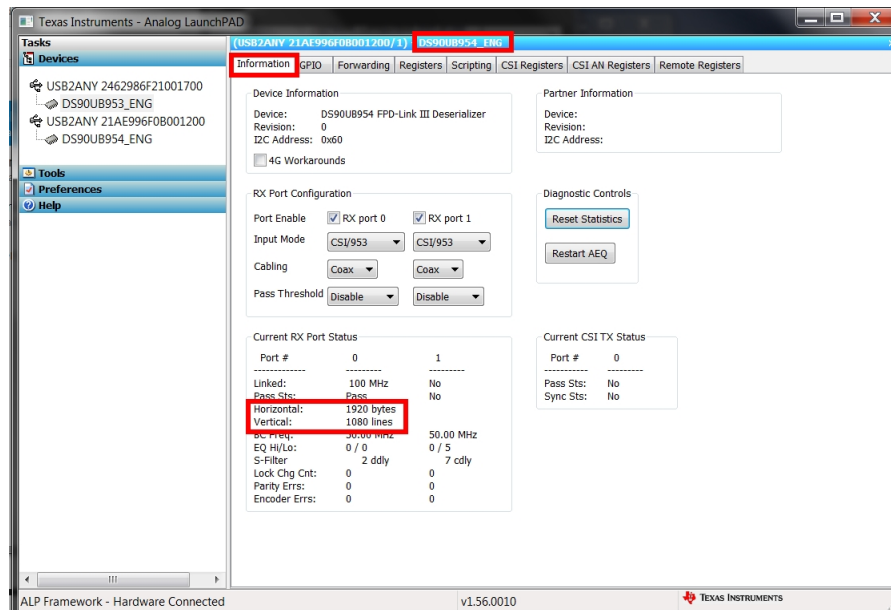

Figure 42. Verifying Camera Initialization in ALP
- Verify that the camera has been enabled navigating to the information tab on the DS90UB954 (or variant), and checking to the horizontal and vertical parameters for the appropriate resolution defined by the camera. Figure 42 shows 1920 bytes and 1080 lines for the horizontal and vertical parameters, respectively. Also, verify that the DC power supply, the HP E3610, is sourcing more current.